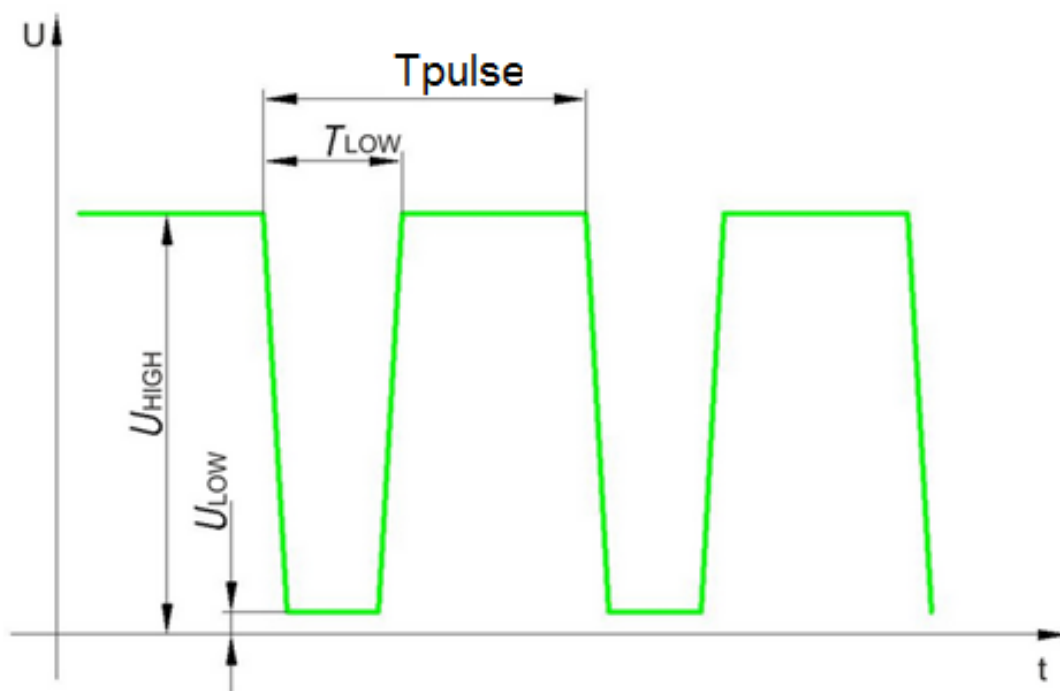

Fig. 2. Output signal of EUROSENS X P(PH) Z V (also see tables 10,11).
Flow meter with non-standard pulse (model P) has an output pulse signal shown in Fig.2.
The type and characteristics of the output signals EUROSENS X P (PN) ZV are shown in Figures 2, 3 and tables 10, 11 (see below). Characteristics of the output signals EUROSENS X RS ZV match the specified item in the digital protocols.